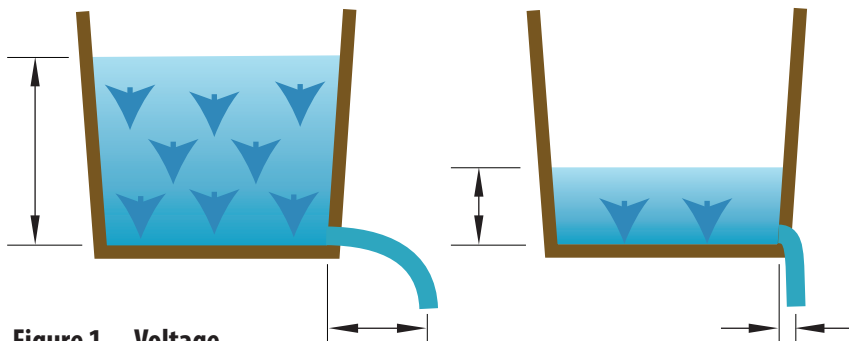
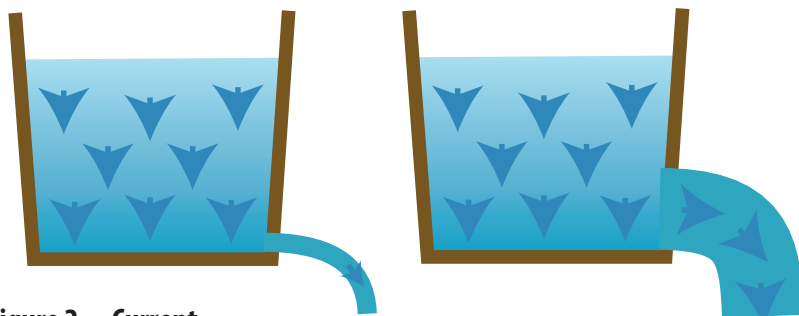
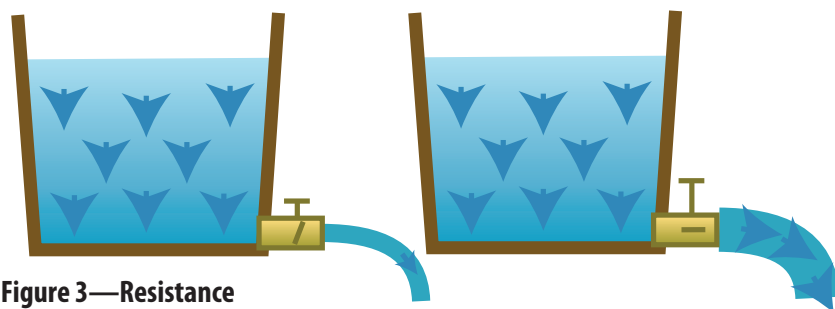

Figure 1—Voltage
Figure 2—Current
Figure 3—Resistance
measured. Voltage is a measure of energy. Consider a tank filled with water. The more water that's in the tank, the more potential energy there is to be used (**figure 1**). The higher the voltage, the more energy there is to make our motors turn—they will turn faster with higher voltages. Now, let's tap a hole in the bottom of the tank. The larger the hole, the faster the water will leave the tank. That's current (**figure 2**). Now, let's put a spigot on the bottom of the tank instead of just a hole. The spigot is resistance. The more the spigot is closed, the greater the resistance and the less current passes. The more the spigot is open, the less resistance and the greater the current (**figure 3**). This is known as Ohm's Law: Voltage (V) = Current (I) x Resistance (R).